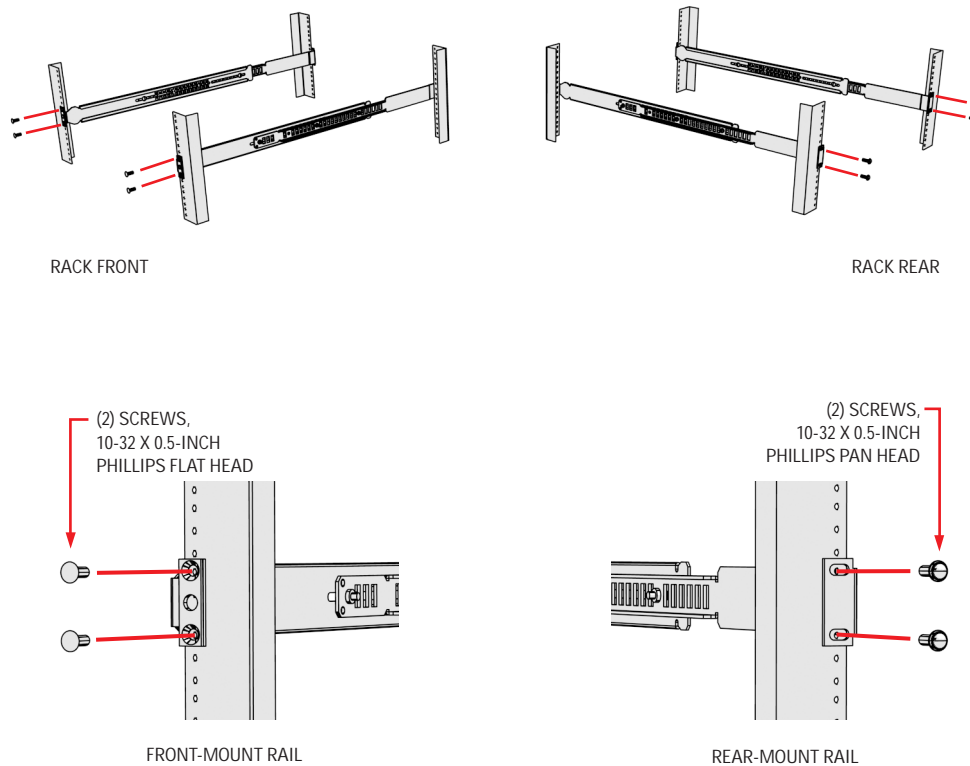

Figure 11. Attaching Support Rails
5. Attach one support rail assembly to the equipment rack in the desired location as follows (refer to Figure 11):
- e. Using two 10-32 x 0.5-inch Phillips pan head screws, attach the ear of the rail to the rear of the rack. Insert the screws from the outside of the rack, pointing toward the front of the rack (refer to Figure 11).